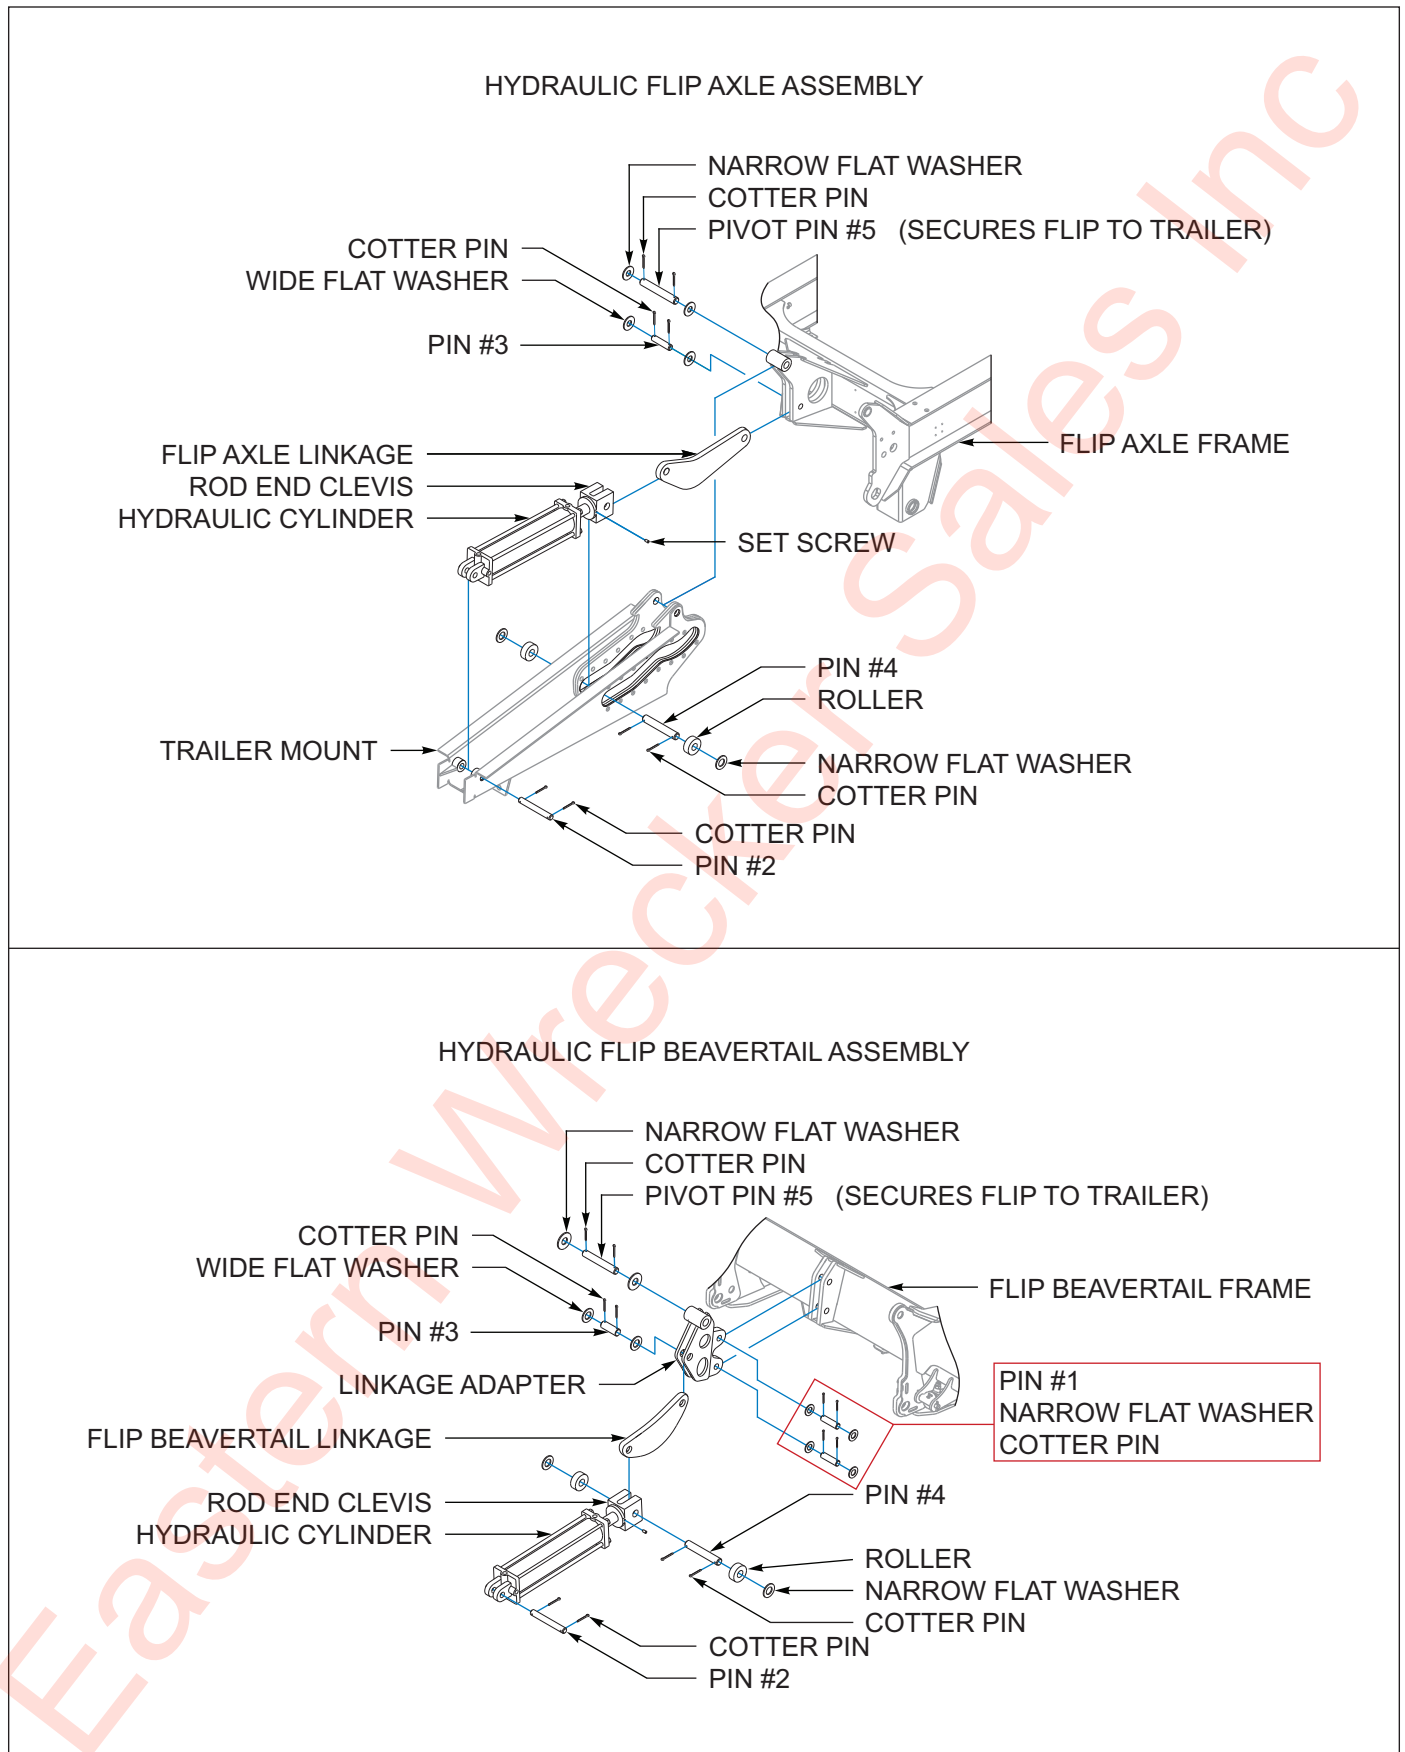

Figure 5-20: Hydraulic Flip Assembly
6. For Hydraulic Flip Assemblies Only, install one **Pivot Pin #5**, 1-1/4 x 8-1/4 inch (3.175 x 20.955 cm) to secure the flip assembly top center hinge to the trailer. Install one flat washer and one cotter pin to each side of the top center hinge pin and bend the tangs over. **See Figure 5-20 on Page 5-33.**
6. Place a drip pan under the cylinder. **See Figure 5-20 on Page 5-33.**
11. Remove two cotter pins and two narrow flat washers from the linkage hinge pin that secures flip linkage to the cylinder clevis. *See Figure 5-20 on Page 5-33.*
1. For Flip Beavertail (Option) Only, with the hinge bushing on top, align the linkage adapter mount to the beavertail assembly. *See Figure 5-20.*
6. Align the cylinder base end clevis to the trailer mount, position the hydraulic fittings on the top side of the cylinder. *See Figure 5-20.*